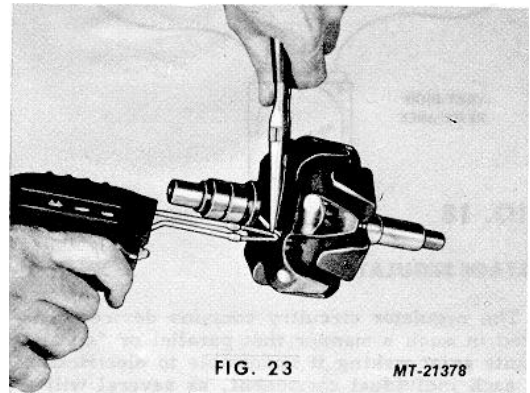

FIG. 23 MT-21378
- 1. Unsolder the slip ring leads and lift them clear of the eyelets which serve to retain them to the rotor coil leads. Do not lose or damage the eyelets (see Fig. 23).